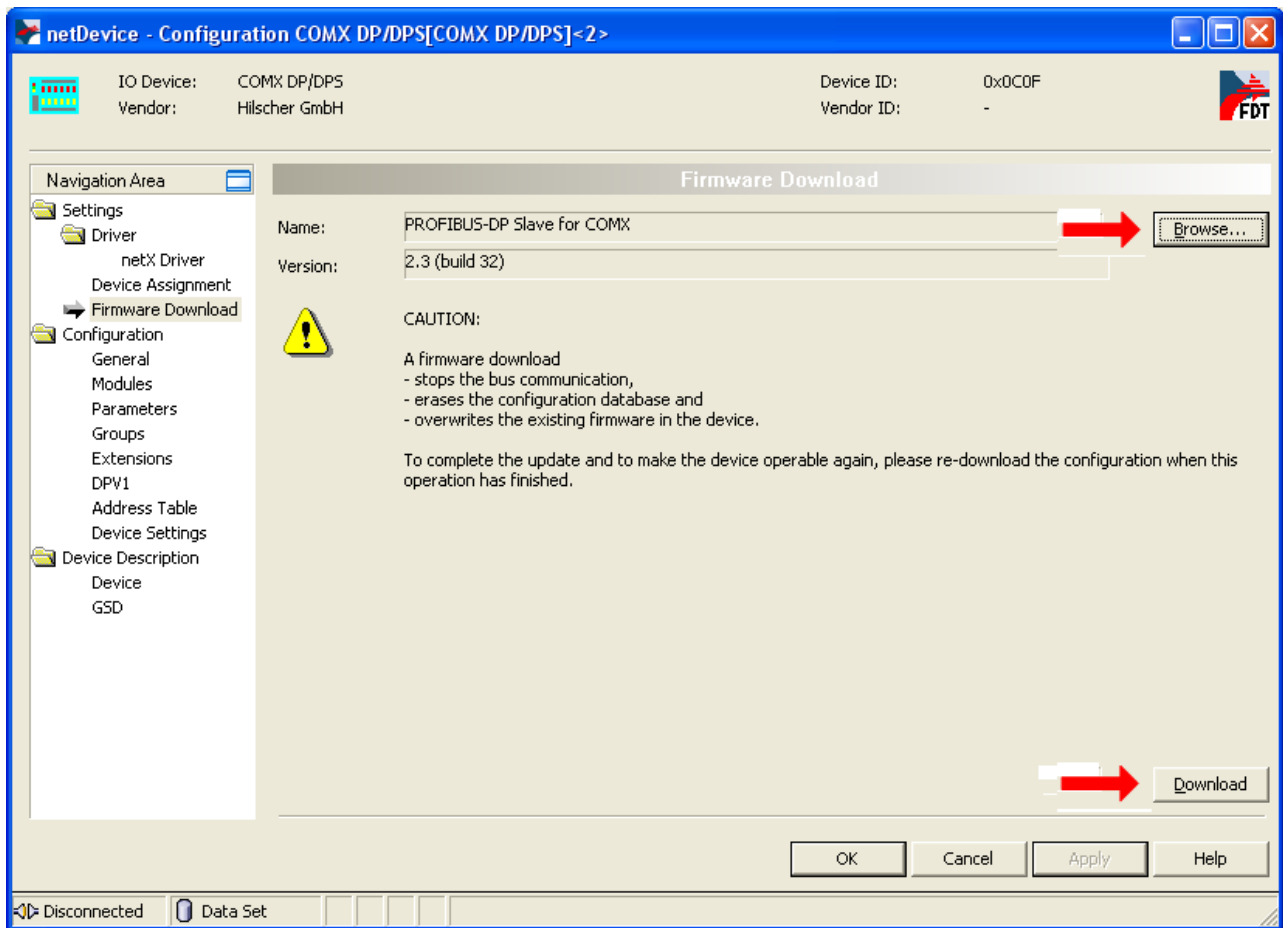

Figure 53: Firmware download with SYCON.net (after the firmware selection)
- Click the button *Select* to open a file selection dialog (Figure 53: *Firmware download with SYCON.net (after the firmware selection)*, see ① top, right).
- To start the firmware update process, click *Load* (Figure 53: Firmware download with SYCON.net (after the firmware selection), see ②).